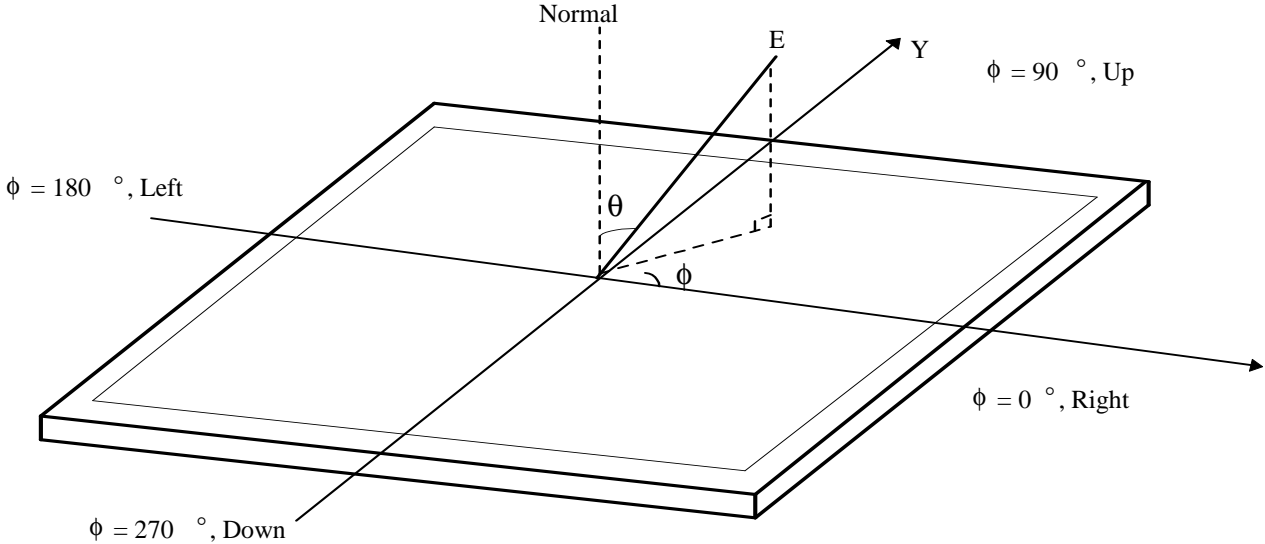

FIG.12 Viewing Angle
4. Viewing angle is the angle at which the contrast ratio is greater than 10. The angles are determined for the horizontal or x axis and the vertical or y axis with respect to the z axis which is normal to the LCD module surface. For more information, see the FIG. 12.